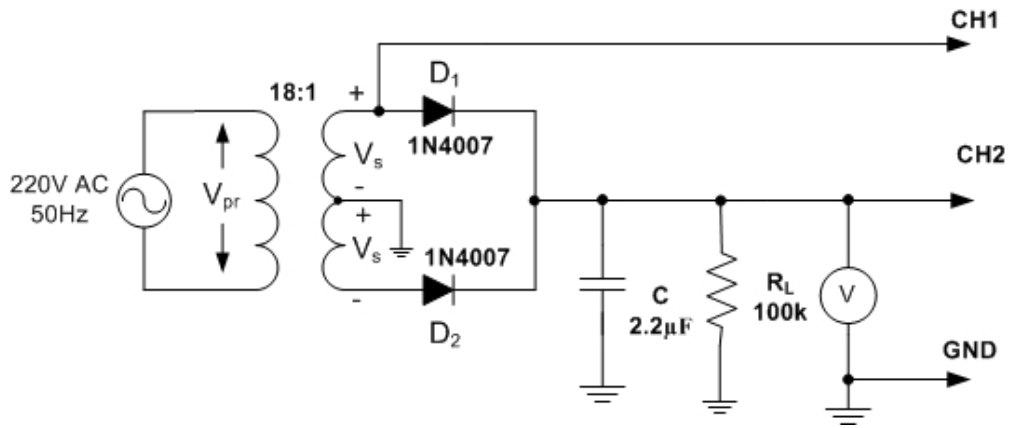

Figure 11: Practical Circuit for the Center-Tapped Full-Wave Rectifier with the Capacitor Filter
- Connect a capacitor filter at the output of the full-wave rectifier as shown in Fig.11, and measure the DC output voltage and peak-to-peak ripple voltage at the output.